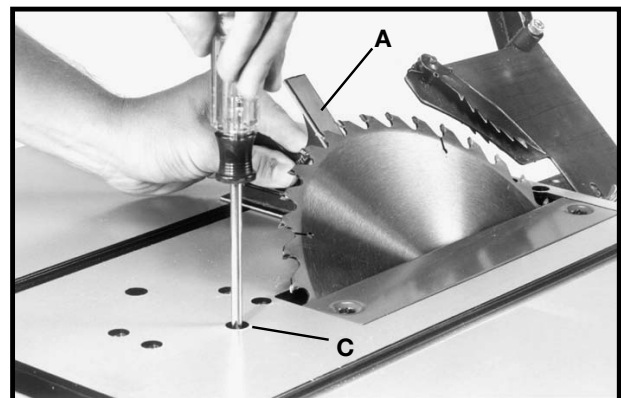

Fig. 39
5. Place a square (A) Fig. 39, on the table with one end of the square against the blade as shown, and check to see if the blade is at 45 degrees to the table. If it is not, loosen screw (C) a few turns and move the blade tilting mechanism until the blade is at 45 degrees to the table. Then tighten blade tilting lock handle and tighten screw (C) until it bottoms.